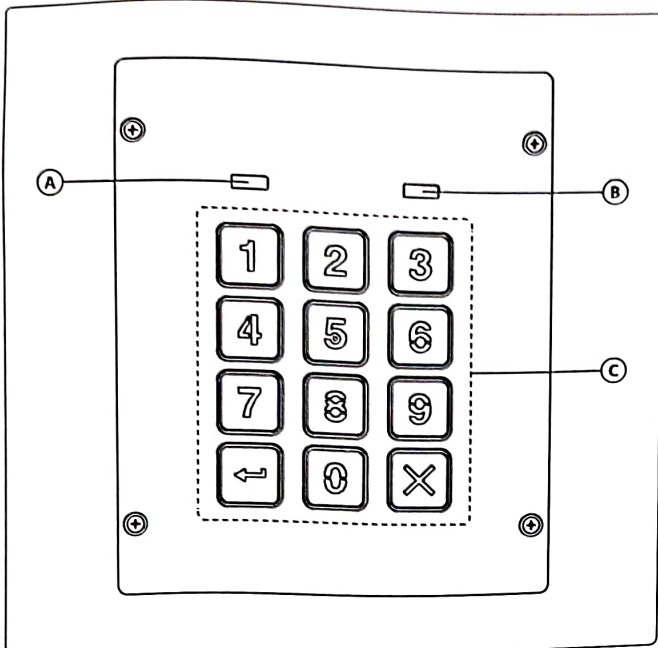

Fig. 1 Front
3. Press and hold down button 1 **①** and keep it pressed down while the power is switched back ON
4. When power is restored to the codelock wait for the module to emit a single beep and the red status LED (Fig. 1, ⑥) to flash once
5. Listen for the confirmation tone and wait for the red status LED (Fig. 1, ⑥) to flash once again
6. Release button 1 **①** and remove the short between terminals – and **SW2**
3. Press and hold down button 2 **②** and keep it pressed down while the power is switched back ON
4. When power is restored to the codelock wait for the module to emit a double beep and the red status LED (Fig. 1, ⑥) to flash once
6. Release button 2 **②** and remove the short between terminals – and **SW2**